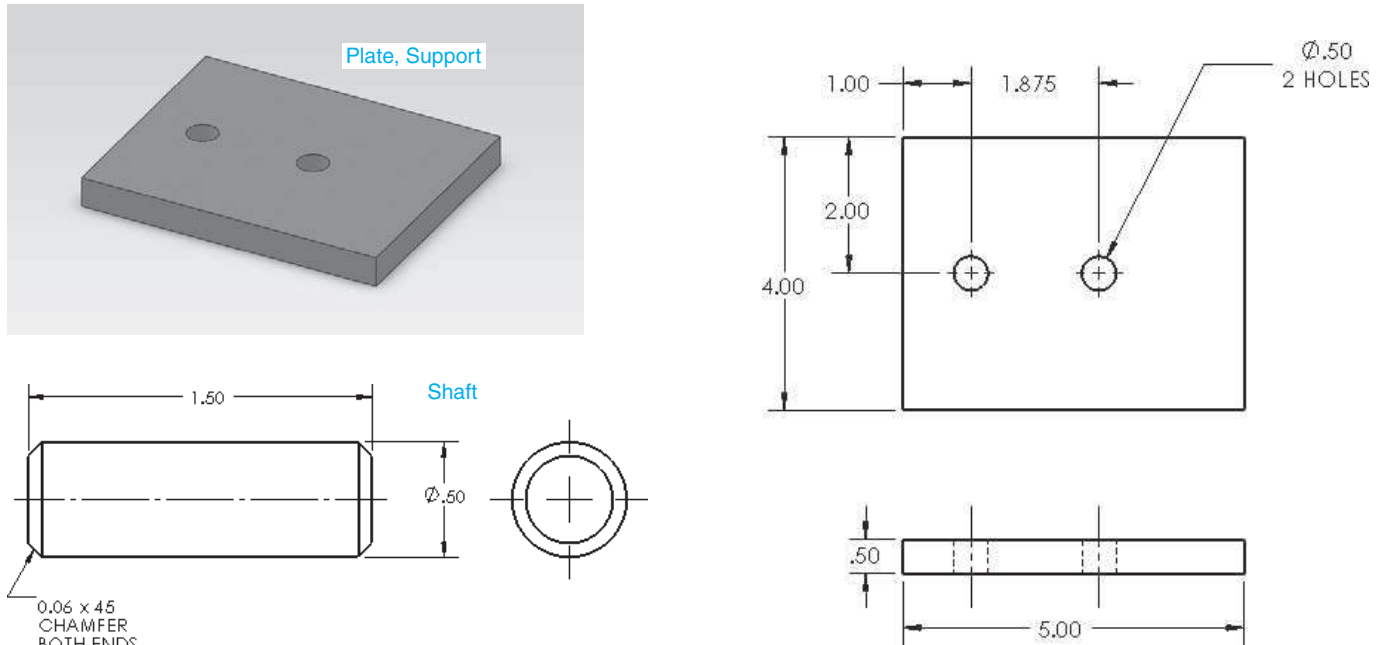

Figure 10-4
In this section we will create two gears and then create an assembly that includes a support plate and two posts to hold the gears in place. The specifications for the two gears are as follows. See Figure 10-4.
This center distance data was used to create the Plate, Support shown in Figure 10-4.
The shafts will have a nominal diameter of $\text{Ø}0.50$ and a length of 1.50. The length was derived by allowing 0.50 for the gear thickness, 0.50 for the Plate, Support thickness, and 0.50 clearance between the gear and the plate. See Figure 10-4. In this example $0.06 \times 45^\circ$ chamfers were added to both ends of the shafts.
- 1 Draw the **Plate, Support** and **Shaft** shown in Figure 10-4.